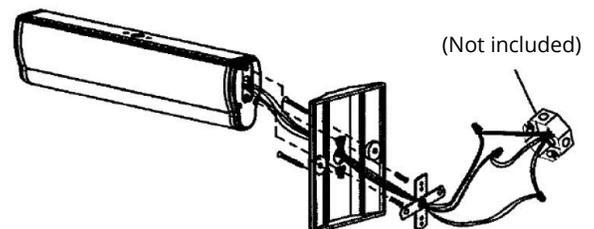

Fig.9
2. Reference Step 1 (also see fig.3), and Step 4 to 7 (also see fig.5 and fig.6) in surface CEILING & WALL MOUNTING above for surface end mounting (also see fig.9)